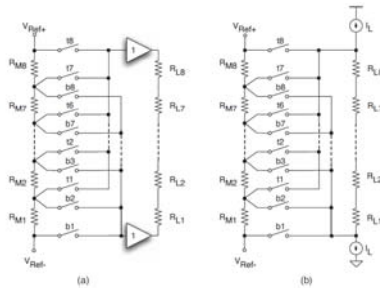

Figure 3.10. (a) Cascade of two DACs with decoupling buffers. (b) Volt-metric interconnection of the LSB DAC.
- **Fig. 3.10 a):**  $R_{M1}$ - $R_{M8}$  obtain a 3 bit coarse division, and  $R_{L1}$  -  $R_{L8}$ ,  $i=1\dots 8$ .
- **Fig. 3.10 b):** Two current generators inject and drain the same current (setting the current in the connections between the two DACs to zero.)